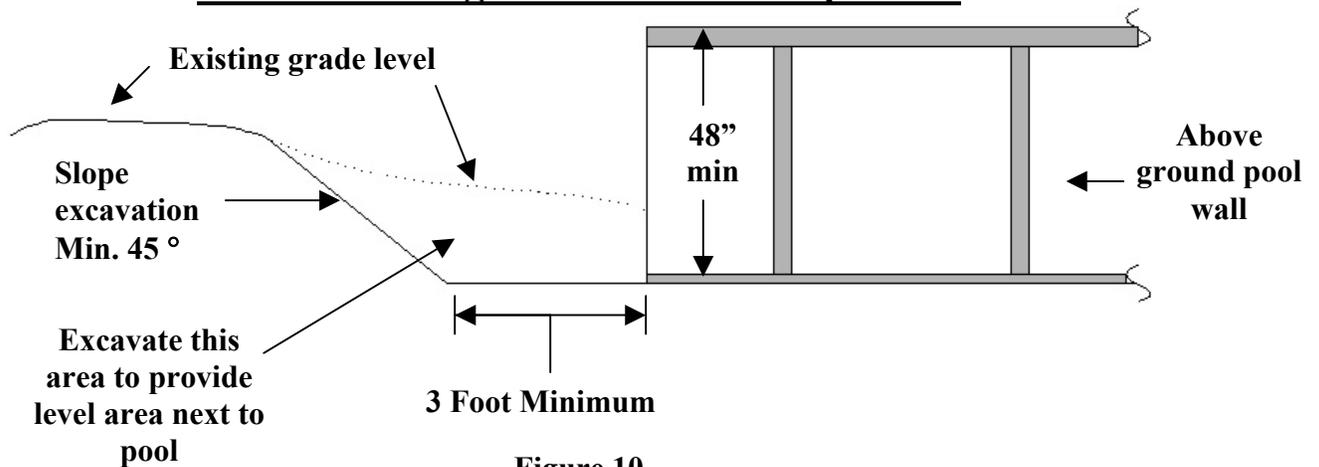

Figure 10
8. Where an above-ground pool on a sloped site that will make a portion of the top of the pool structure to be less than 48" to grade, a minimum of 3-foot level surface around the portion of the pool structure that is less than 48" to grade should be provided. The level surface should be measured away from the pool wall to the excavation edge and should be tapered away from the pool at a minimum of 45-degree angle for a distance of one half the level surface. (Figure 10 )